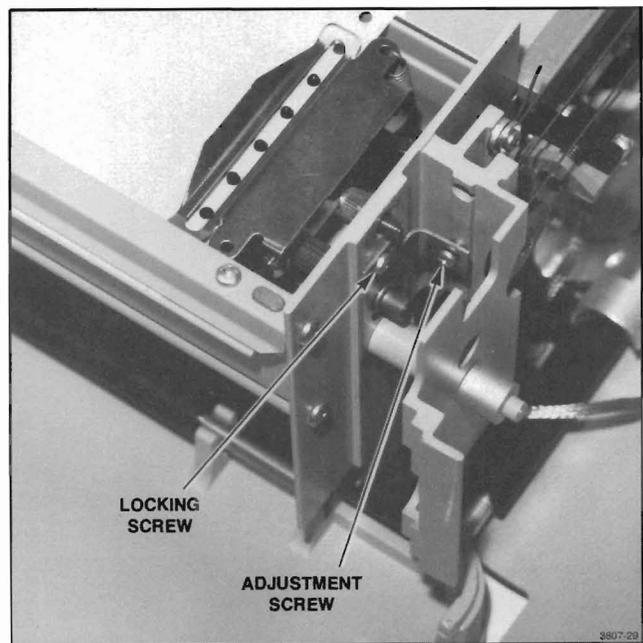

Figure 5-2. Lateral Paper-Drive Mechanism Adjustment.
- b. **Loosen** the locking screw shown in Figure 5-2.